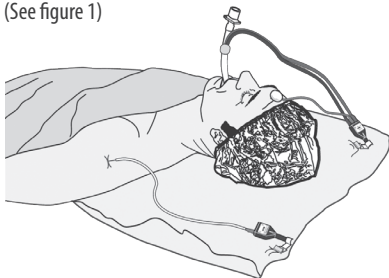

Figure 1
a. For Nerveäna® system, apply green hydrogel to forehead. Attach green ground wire to green ground port of the EMG cable. Insert white STIM return electrode to deltoid muscle. (See figure 1)